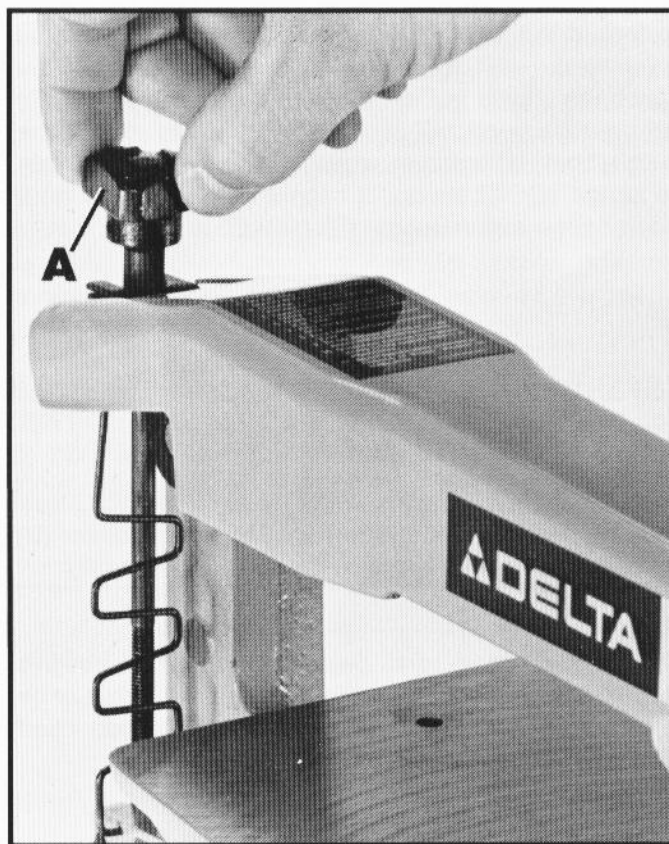

Fig. 18
Tension is applied to the blade by means of the blade tension knob (A) Fig. 18. Turning the knob clockwise will increase tension and turning it counterclockwise will decrease tension. Always turn the tension knob by hand. Never use any type of mechanical device or tool to turn tension knob. **CAUTION:** Excessive tension may cause blade breakage.